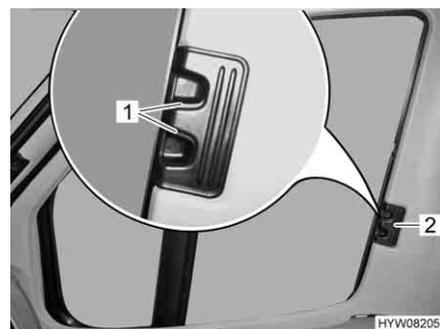

Fig. 39 Roman shade for driver's and passenger's window
- Use handle (Fig. 39,2) to push in the Roman shades for the driver's and passenger's window as far as possible.
- Allow the release handles (Fig. 39,1) to engage.